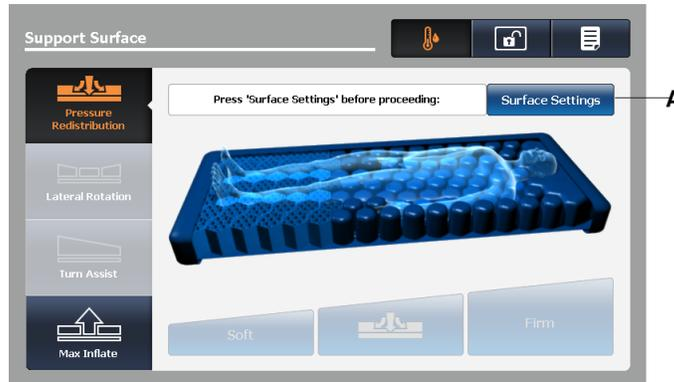

Figure 47: Pressure redistribution screen
Tap **Surface Settings** on the Pressure Redistribution screen (A) (Figure 47 on page 60).